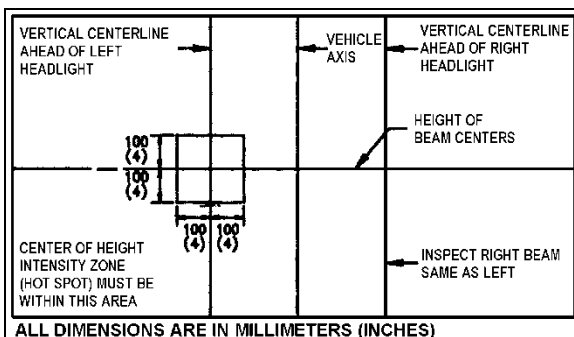

FIGURE 45: AIM INSPECTION LIMITS FOR UPPER-BEAM HEADLIGHTS 06505
7. The inspection limits for high-beam headlights shall be with the center of the high-intensity zone from 10 cm (4 in) up to 10 cm (4 in) down; and, from 10 cm (4 in) left to 10 cm (4 in) right on a screen at 7.6 m (25 ft) (Figure 45).